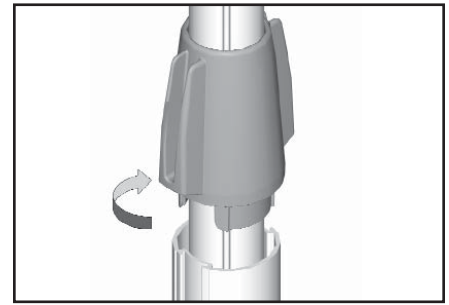

Figure 40
9. Loosen the post by twisting as follows (Figure 40):